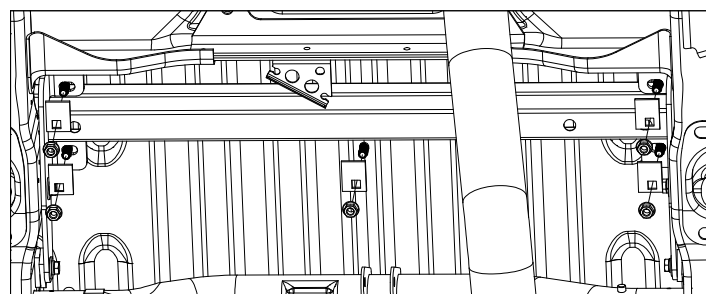

Figure B5: View looking up at bed from underneath truck.
4. **Fasten the forward mounting rail.** Install an offset square hole washer and 1/2" flange nut on each of the carriage bolts passing down through the bed as shown in Figure B5. Do not fully tighten at this time.